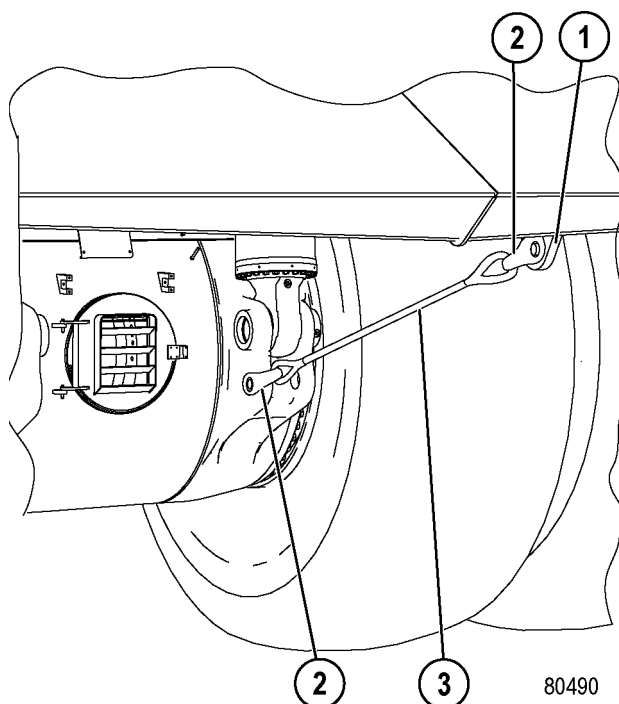

FIGURE 20-1. BODY RETENTION SLING INSTALLATION
2. Install two shackles (2, Figure 20-1) and body retention sling (3) between rear body ear (1) and axle housing.